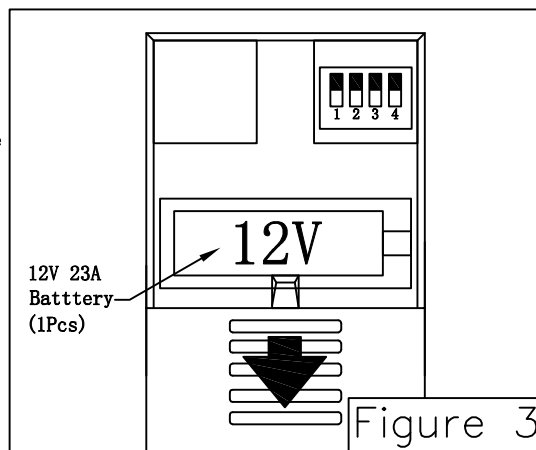

Figure 3
- To make fan operational, install 23A/12V battery (included) in hand-held remote transmitter, with fan power off. Then follow the remote code setting process. (If not used for long periods of time, remove battery to prevent damage to transmitter). Store there mote away from excessive heat or humidly. (Figure 3)